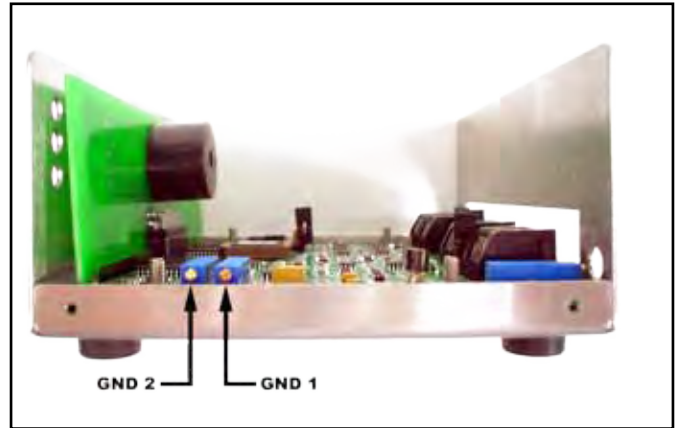

Figure 5. GND 1 and GND 2 Potentiometers
- II. The associated potentiometers need to be adjusted fully clockwise. The pots are located inside the unit on the bottom board. The potentiometer closest to the rear of the unit is for GND 1 and the one closest to the front of the unit is for GND 2 (See Figure 5).
- V. Turn the appropriate pot (See Figure 5) counter clockwise until the GROUND FAIL (red LED).
- V. Turn the appropriate pot (See Figure 5) counter clockwise until the GROUND FAILS (red LED).